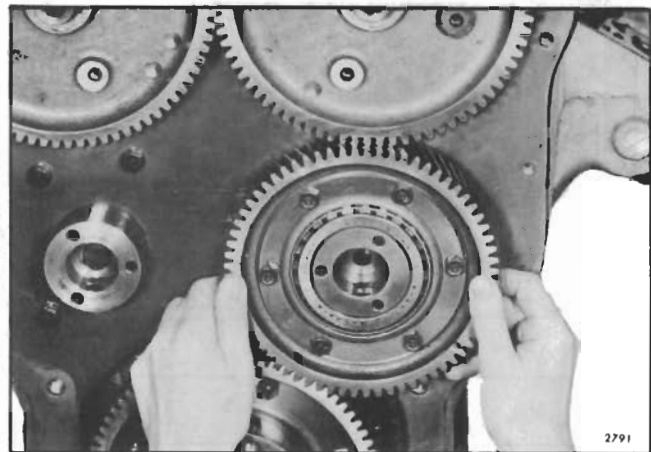

Fig. 8 - Installing Idler Gear, Hub and Bearing Assembly
5. If previously removed, install the idler gear hole spacer (dummy hub) (Fig. 8). Secure the spacer to the cylinder block end plate and cylinder block with a 1/2"-13 bolt and special washer. Tighten the bolt to 80-90 lb-ft (108-122 Nm) torque.